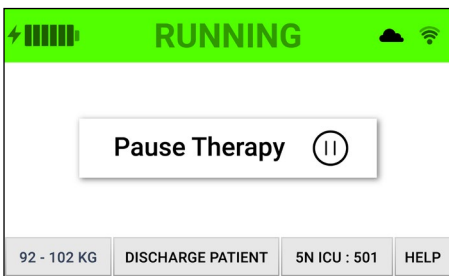

Figure 8. Running screen (standard)
When the controller is operating, a screen will display with a green status bar to indicate that the controller is running. (Fig. 8 & 9)
1. Therapy can be stopped by pressing "Pause" on the running screen. (Fig. 8 & 9)